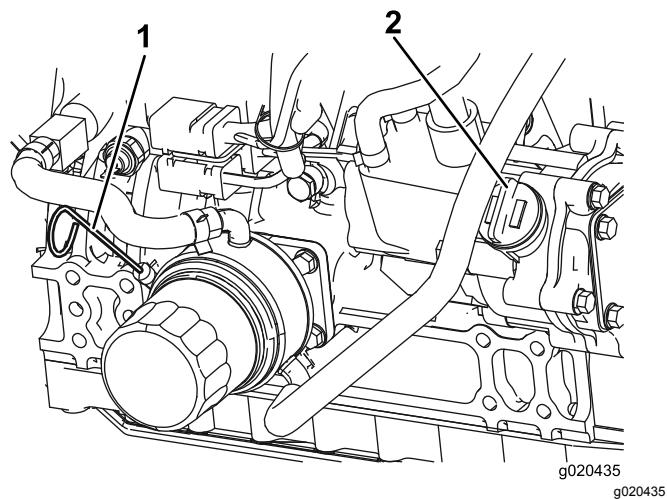

Figure 53
Note: The oil level should be in the safe range (Figure 53).
4. If the oil is below the safe range, remove the fill cap (Figure 53) and add oil until the level reaches the **Full** mark. **Do not overfill.**